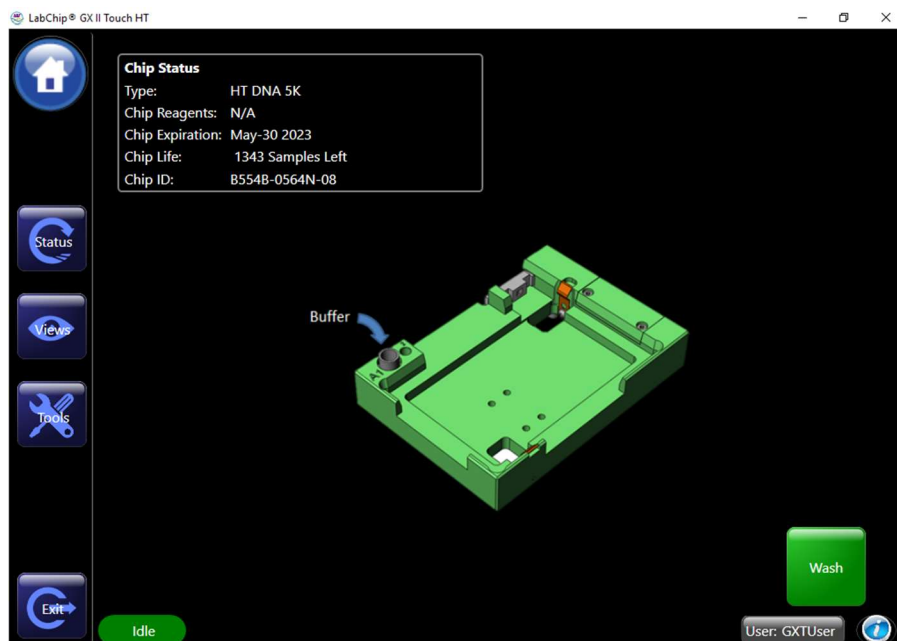

Figure 16. Wash Screen
- 6 Touch the **Wash** button on the Home screen. The Wash screen (Figure 16) opens.